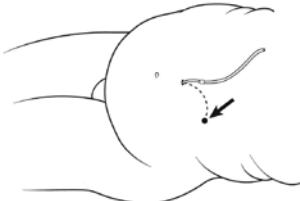

Figure 32
1. Locate the previously marked exit-site as determined by the Implantation Stencil (Figure 32).